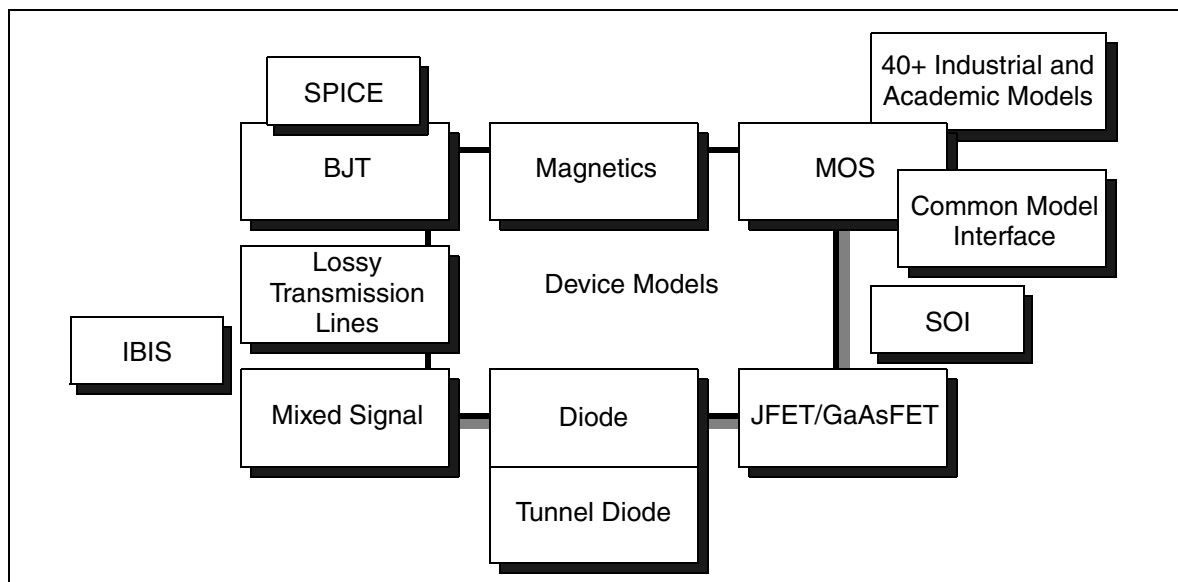

Figure 2 Synopsys HSPICE Modeling Technologies
- A number of circuit analysis types (see Figure 2 on page 6) and device modeling technologies.